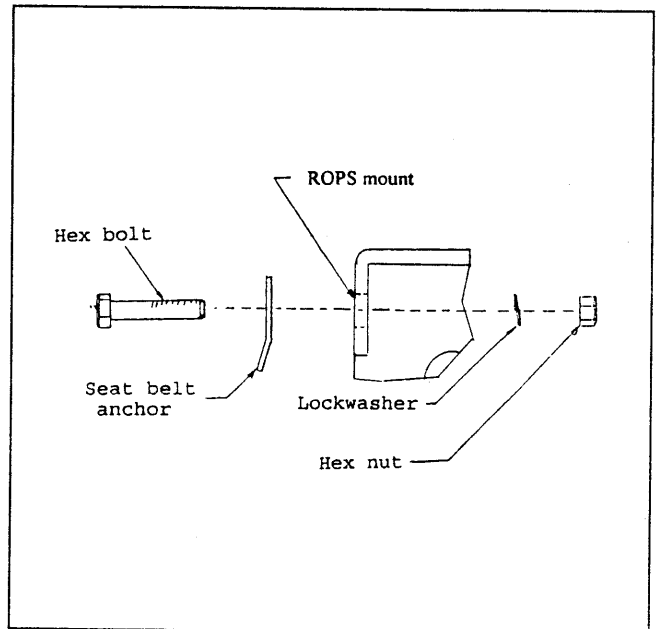

Figure 4
12. Locate the 7/16" dia. hole in the left, rear ROPS mount support. Take one of the seat belt (4) anchors and position it against the inside of the support as shown in Figure 4. Bolt the anchor to the support using the seat belt hardware provided.